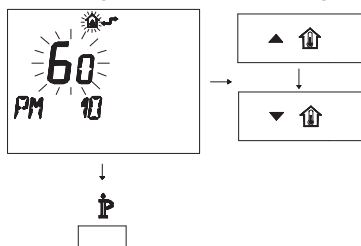

Fig. 8.29
- To modify the programmed SET, act on buttons **▲** and **UP** or **▼** and **UP** and wait for the number programmed to flash (Fig. 8.29).